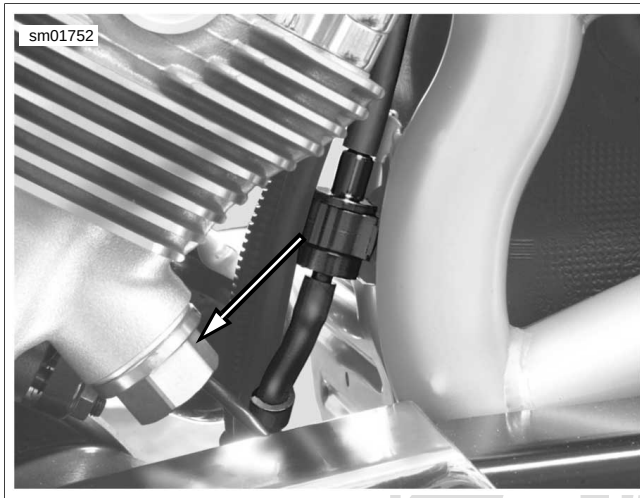

Figure 1-61. Secondary Cam Chain Tensioner
- See Figure 1-61. Remove secondary cam chain tensioner.